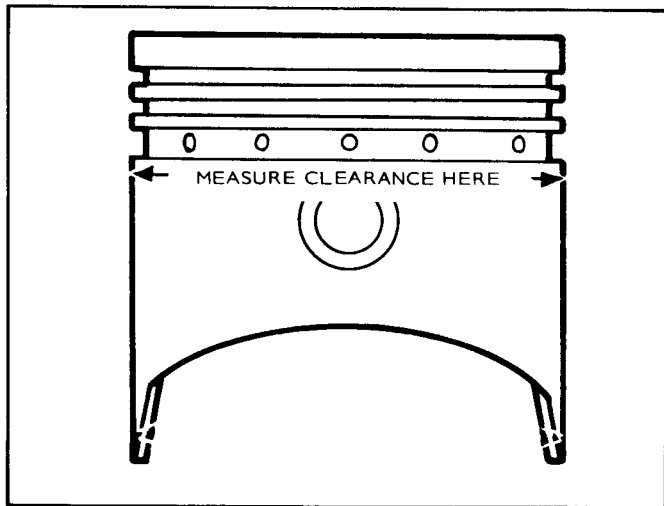

FIGURE 11. POSITIONS FOR MEASURING DIAMETERS OF PISTONS
- Measure the piston as shown in Figure 11 to be sure the total piston-to-cylinder clearance follows specifications.